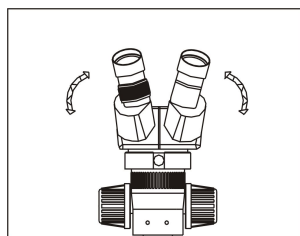

Fig. 4
- Adjust the prism housing along the direction of arrow of the Fig.4 till the observation is comfortable.